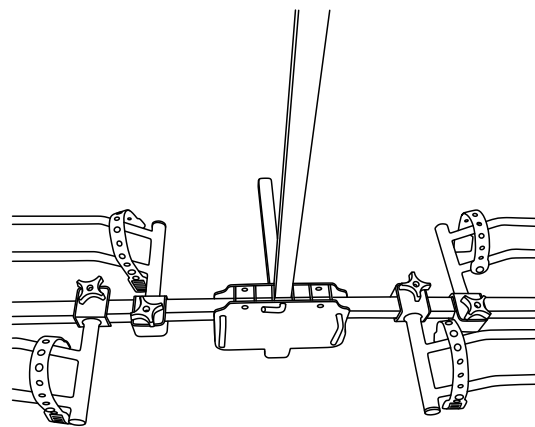

Fig. 6
2. Slide the Wheel Trays onto the beam making sure to alternate one pair to the left and one pair to the right of each other to allow adjustment for individual bike wheel bases **(Fig. 6 & 7)**.